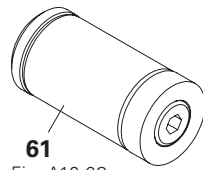

Fig. A10.03
- Stopper MX18-50 OF-LS (Fig. A10.03)